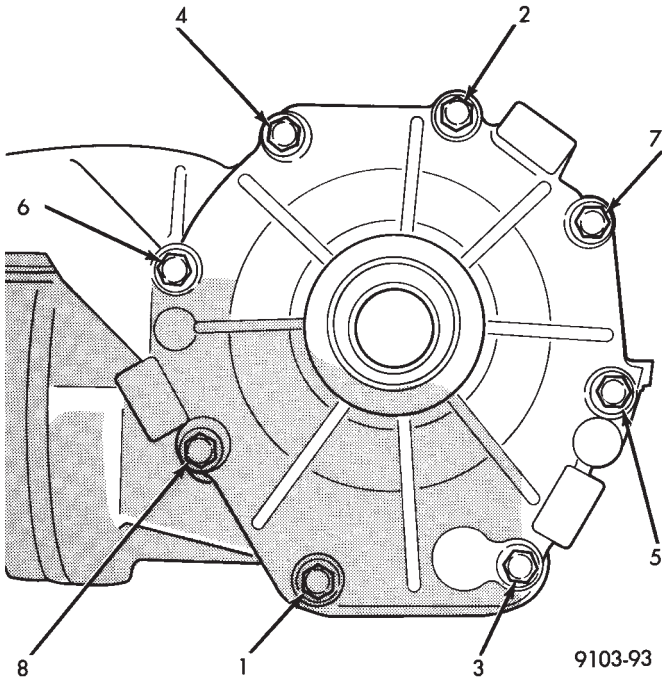

Fig. 3 Bolt Tightening Sequence.
(10) Inspect and replace pinion gears, pinion shaft or pinion washers as required.
(11) Reverse steps 7 through 10 to assemble differential. Torque the ring gear bolts to 95 N•m (70 ft. lbs.).
(12) Install differential assembly into driveline module case.
(13) Clean and inspect sealer surfaces.
(14) Apply Mopar® Gasket Maker, Loctite Gasket Eliminator or equivalent and install end cover. Tighten to 28 N•m (250 in. lbs.).
(15) Tighten bolts in proper sequence (Fig. 3). Retighten first bolt after all others are tight.